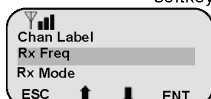

Figure 6
6. Highlight "Rx Freq" and press "ENT". (See Figure 6)